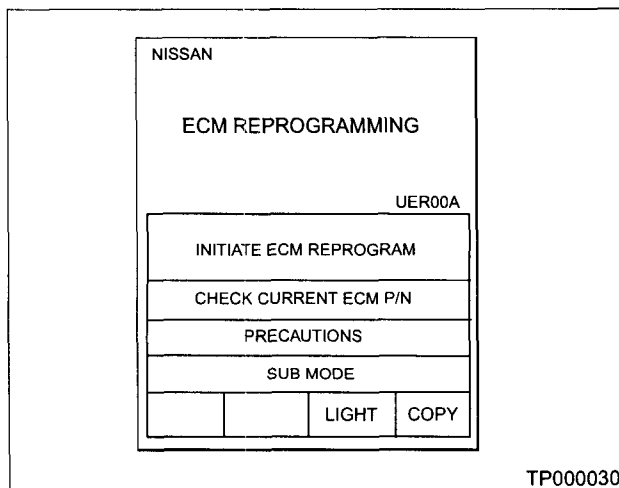

Figure 18
24. Make sure the DLC-II cable is firmly plugged into the vehicle harness (see **CAUTION** below). Turn "ON" the ignition switch (do not start the engine). CONSULT II will turn on automatically (see Figure 18).